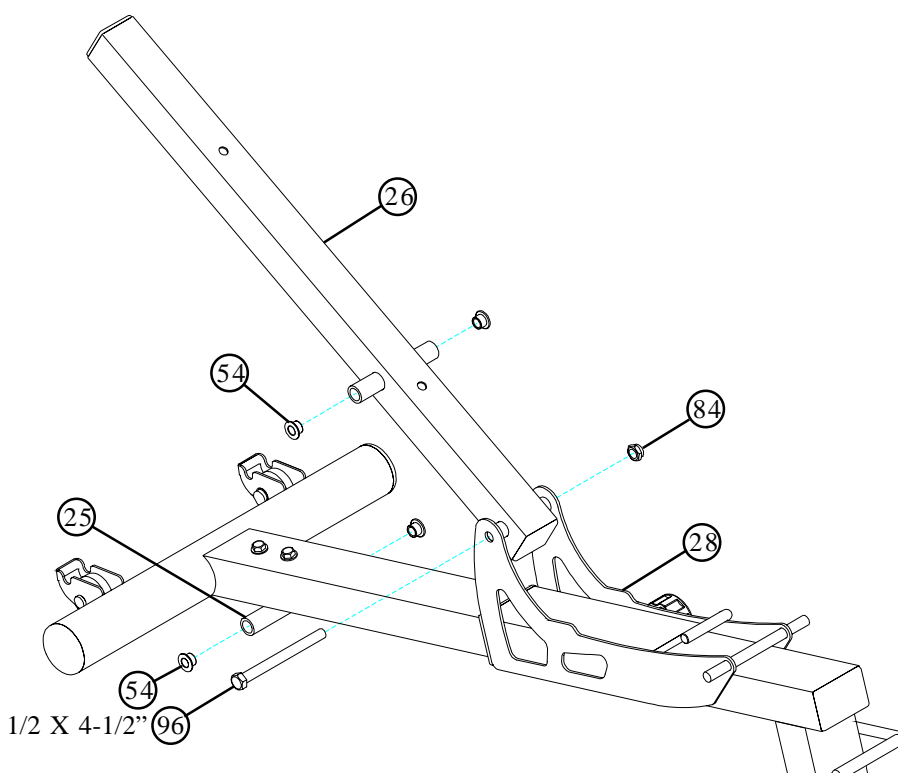

FIGURE 29
- Insert four 1/2" FLANGE BEARINGS (54) into the ROCKER PIVOT (25) and the BACK PAD SUPPORT (26) as shown in FIGURE 29.
- Assemble the BACK PAD SUPPORT (26) to the BENCH SEAT ADJUST (28) using one 1/2 X 4-1/2" BOLT (96) and one 1/2" LOCK NUT (84). (**Note: Tighten this connection enough to remove excess play yet allow the BACK PAD SUPPORT to rotate freely.**)